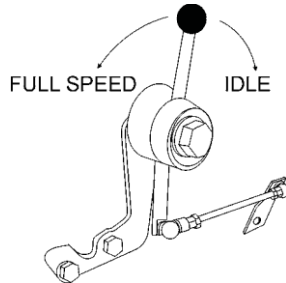

Figure 8. Speed Control Lever
1. Set the **Speed Control Lever** (Figure 8) to a position half way between start and stop.
10. Move **speed control lever** to full speed position for maximum engine speed (See Fig. 8).